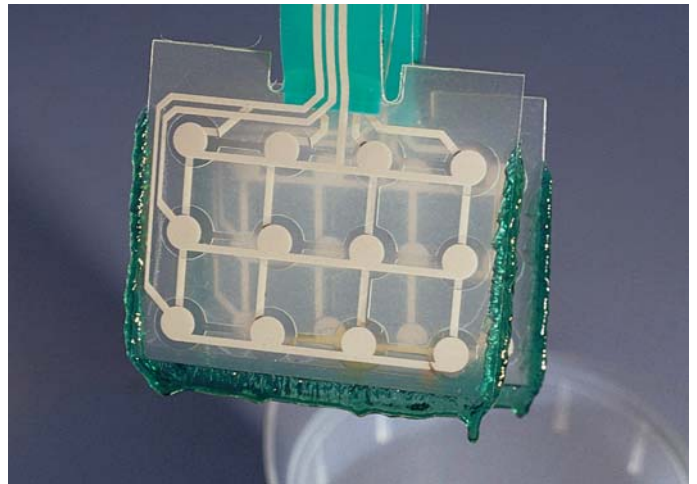

FIGURE 13: PSA construction switch soaked in 409
- A) 409 – ingress and dissolving of the PSA adhesive occurred uniformly around the perimeter of the switch. 1st failure of insulation resistance occurred on day 20 (Figures 13 and 14).